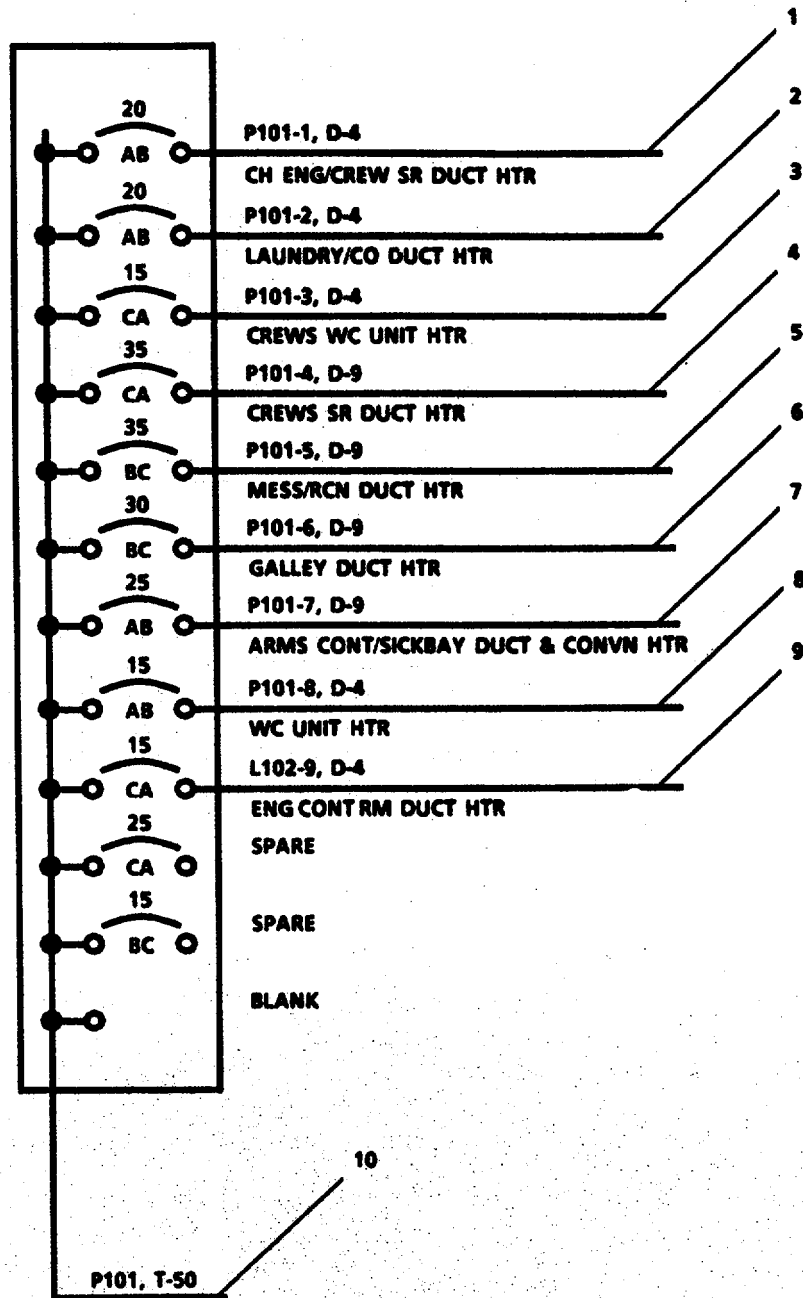

FIGURE 3-151. Power Distribution Panel P101.
**3-166. Repair Power Distribution.Panel P101 (Figure 3-151).**